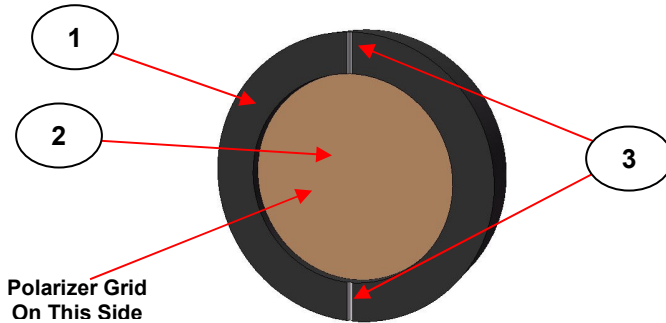

Fig 2. Engraved Marks on Ring Mount for GS57500 Series Polarizers
The polarizer grid is deposited onto one surface of the substrate (2) material. The polarized grid surface is on the same side of the polarizer ring mount that carries the two engraved marks (3). (See Fig 2.)